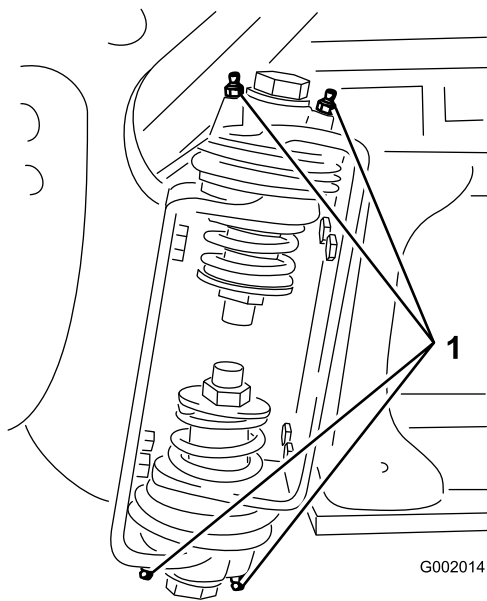

Figure 35
2. Pump grease into the bearing or bushing at each fitting Figure 35.